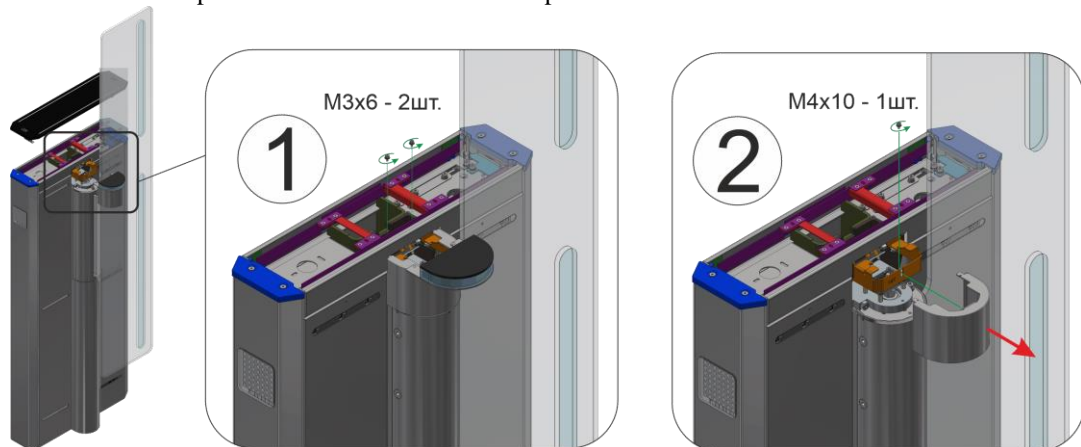

Fig.21 – Removing the turnstile indication cover
13) Removing the cover of the turnstile indication (Fig.21):